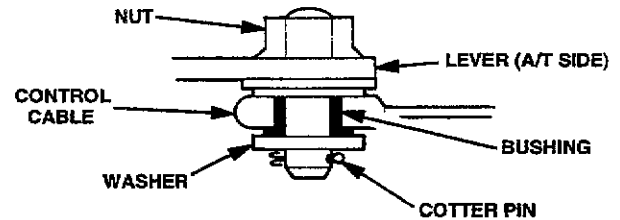

FIGURE 3
7. Remove the old bushing and install the service kit. See **FIGURE 3**.